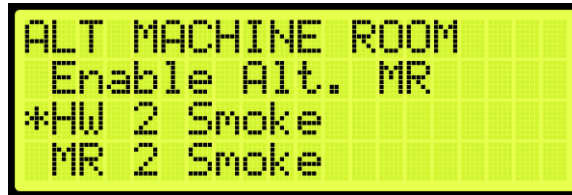

Figure 563: ALT MACHINE ROOM Menu – HW 2 Smoke
3. From the ALT MACHINE ROOM menu, scroll and select HW 2 Smoke (See Figure 563).